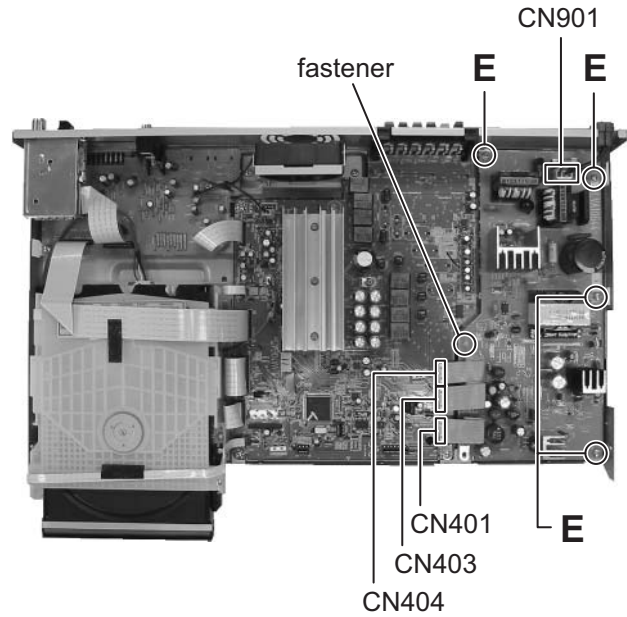

Fig.6
3.1.3 Removing the power supply board (See Fig.6)